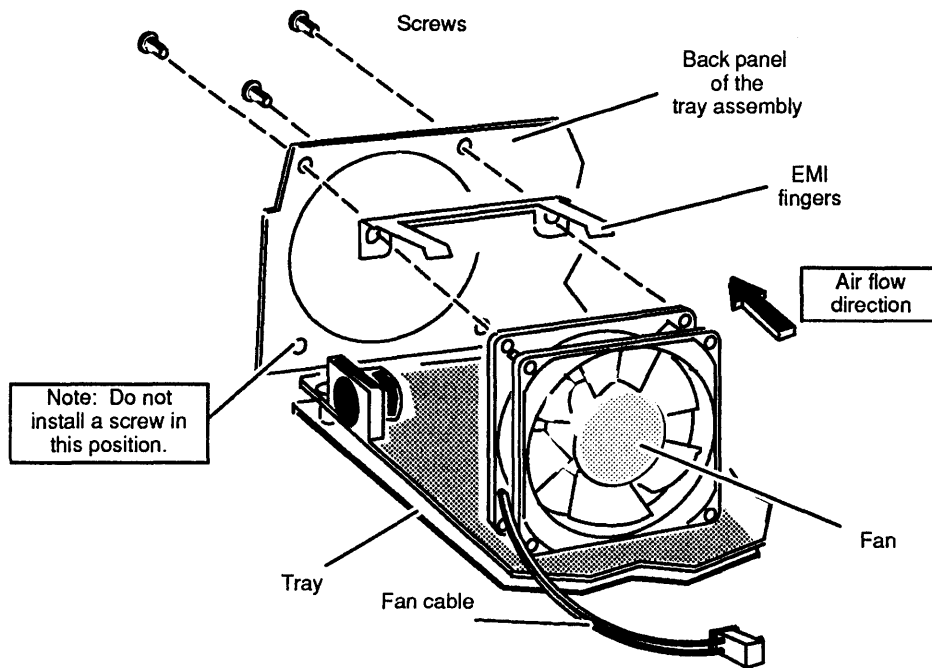

Figure 4-11 Installing the Fan
5. Position the EMI fingers between the fan and tray assembly's back panel, as shown in Figure 4-11.
6. Insert and tighten the three screws (shown in Figure 4-11) that attach the fan and EMI fingers to the back panel of the tray assembly.